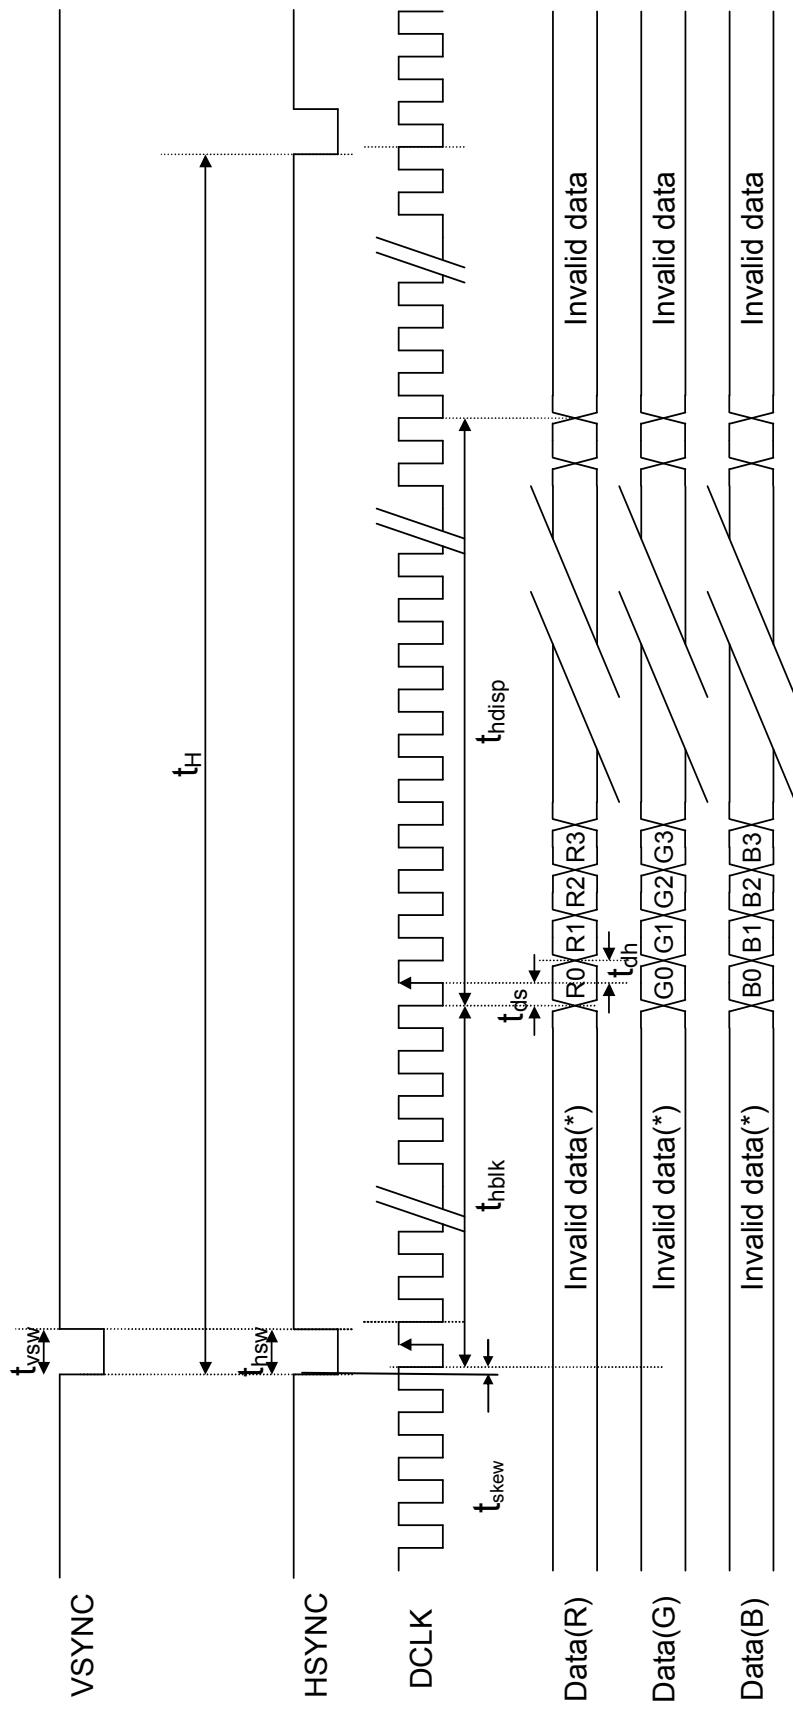
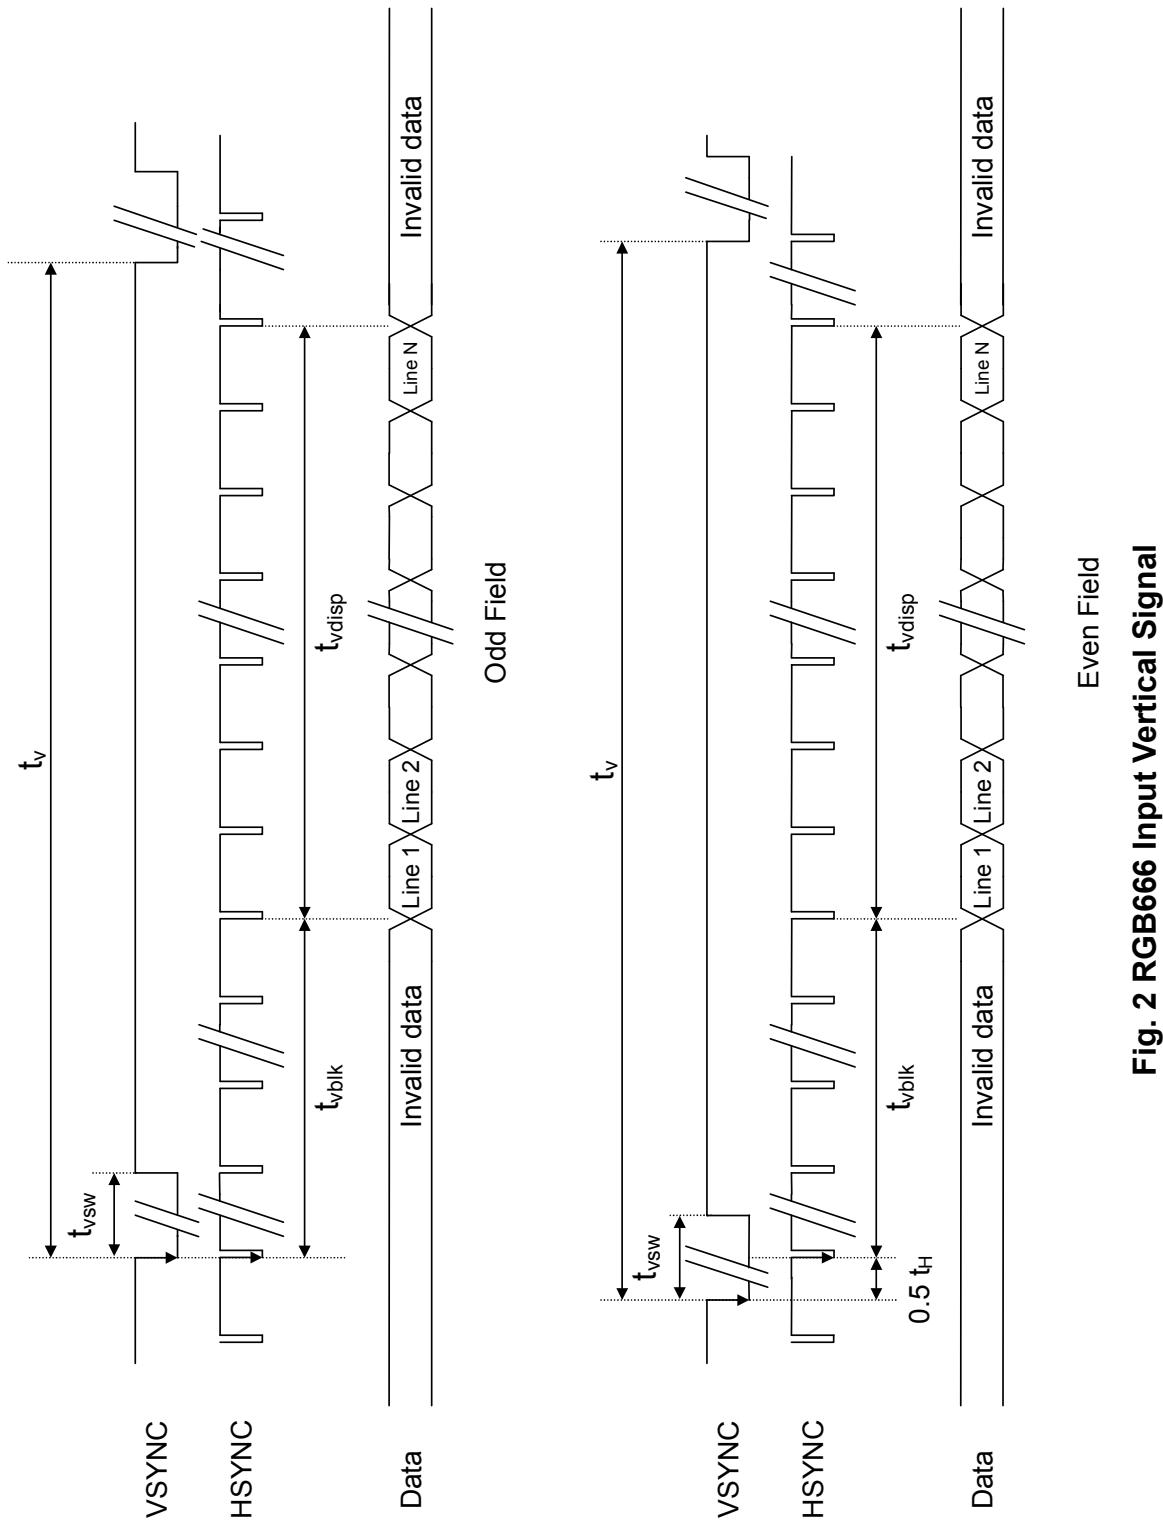

Fig. 1 RGB666 Input Horizontal Signal
Fig. 2 RGB666 Input Vertical Signal
a. RGB666 (320 mode/NTSC) timing specifications (refer to Fig. 1, Fig. 2)
Note 1: The falling edge of HSYNC should be aligned to the falling edge of DCLK. The timing tolerance is 5ns. For detail timing illustration, please refer to Fig. 1.